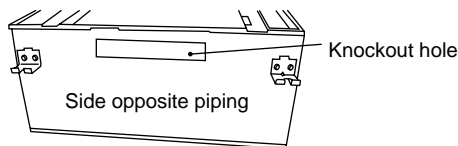

Fig.1
- (1) Cut the knockout hole (45 × 240) on the side opposite to the piping with nippers.
- (2) Cut out and remove the thermal insulation on the inside around the knockout hole (see Fig.1).